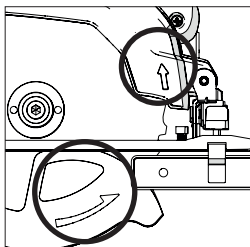

Fig. 6
- Ensure that the direction of rotation arrows printed on the blade, match the direction of rotation arrows found on the machines upper and lower blade guards. **(Fig. 6)**